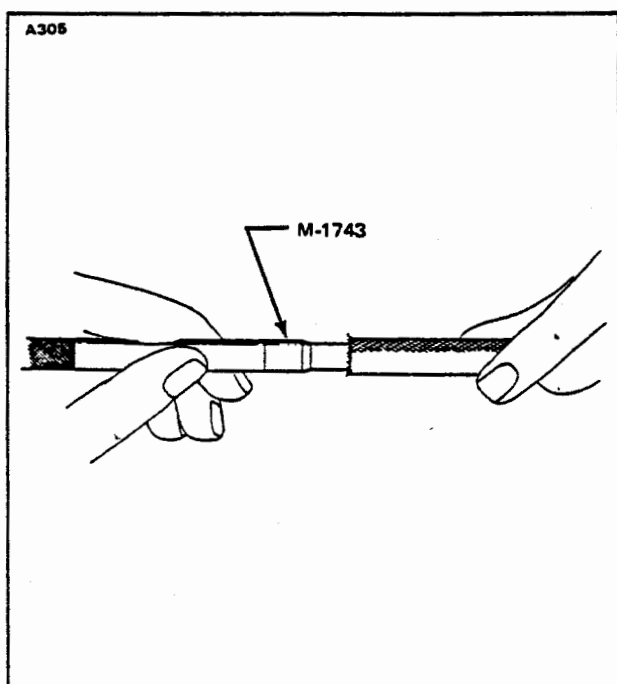

Figure 8-21. Stripping Tool
- c. Flare out shielding, then without allowing any of the shielding to fold under, insert Slick M-1743 Stripping Tool under the braided shielding. Refer to Figure 8-21.